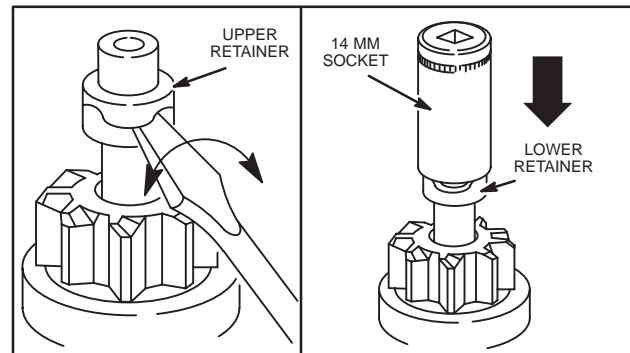

Fig. 53 – Removing Split Retainer
5. Separate split retainer using small screw driver and remove upper retainer, Fig. 53.
6. Use a 14 mm deep socket and drive lower retainer from snap ring, Fig. 53.